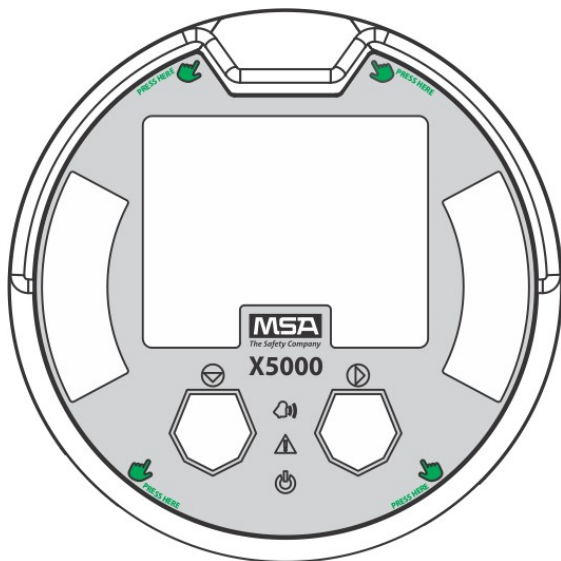

Fig. 10 Highlighted Areas Show Where to Press when Replacing a Board Stack
8. Replace the board stack legs into the four depressions in the mounting plate. Push firmly on the board stack where indicated (see Fig. 10).